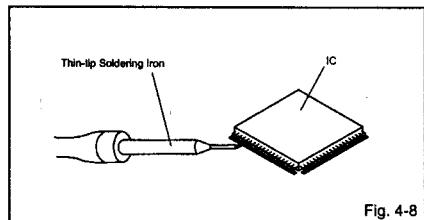

Fig. 4-8
- When bridge-soldering between terminals and/or the soldering amount are not enough, resolder using a Thin-tip Soldering Iron. (Refer to Fig. 4-8.)